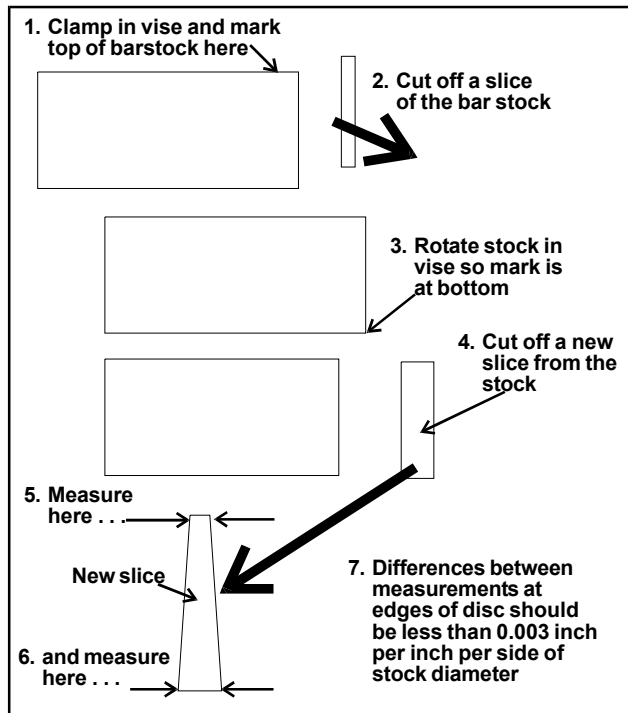

Figure 11: Cutting a Test Disk
1. With the bar stock securely clamped in the vise, make a cut through the bar stock (see **Figure 11**.)